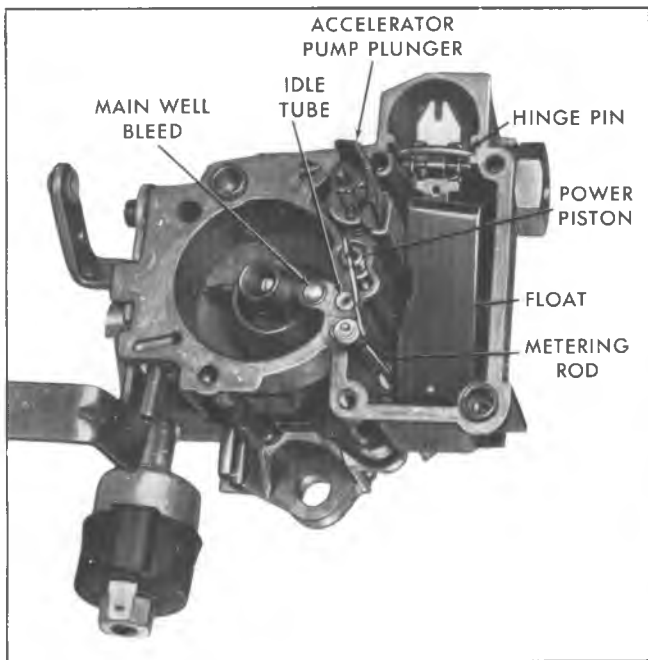

Fig. 4-Float and Accelerator Pump
2. Remove float assembly from float bowl by lifting upward on float hinge pin. Remove hinge pin from float arm (Fig. 4).
4. Disconnect accelerator pump and power piston actuator lever from end of throttle shaft by removing lever attaching screw (Fig. 4).
5. Hold down on power piston while removing lever. Power piston spring and metering rod assembly may now be removed from float bowl (Fig. 4).
8. Push down on pump discharge "T" until flush with bowl casting. (Fig. 4).
14. Install pump plunger assembly into pump well with actuating lever protruding through bottom of bowl casting. Push downward on pump lever and install pump assembly drive link into slot in lower end of shaft. Ends of drive link point inboard toward carburetor bore. Tang on upper end of link retains link to pump shaft. (Fig. 4).